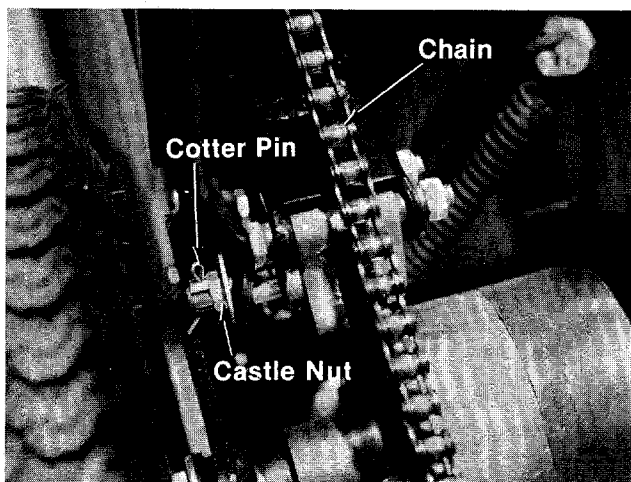

FIGURE 29.
BRAKE ADJUSTMENTS (See figure 29)
4. **Chain.** Periodically lubricate chain lightly with oil. Wipe off excess oil, especially on the sprocket. **Do not** get oil on the disc brake. See figure 29.